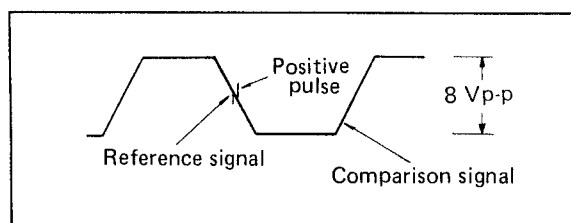

Fig. 6-6 Drum sampling waveform
- Check the reference signal position as shown in Fig. 6-6.